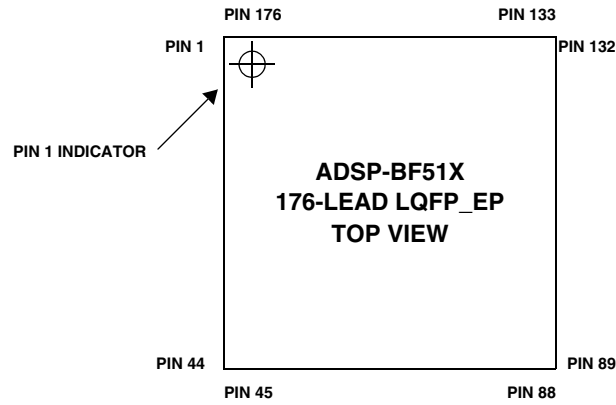
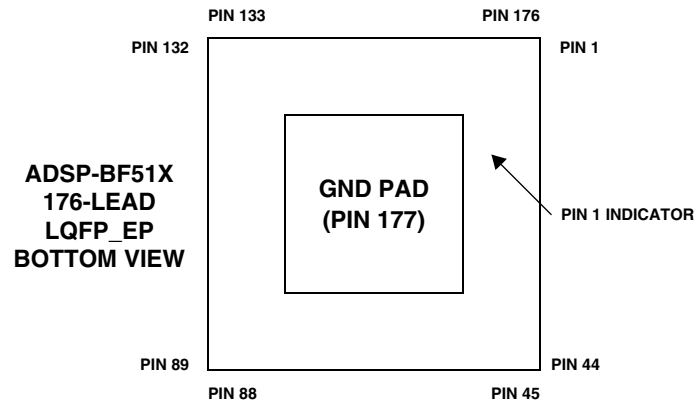

Figure 69. 176-Lead LQFP_EP Lead Configuration (Top View)
Figure 70. 176-Lead LQFP_EP Lead Configuration (Bottom View)
* Pin no. 177 is the GND supply (see Figure 70) for the processor; this pad must be **robustly** connected to GND.
Figure 69 shows the top view of the LQFP_EP lead configuration. Figure 70 shows the bottom view of the LQFP_EP lead configuration.